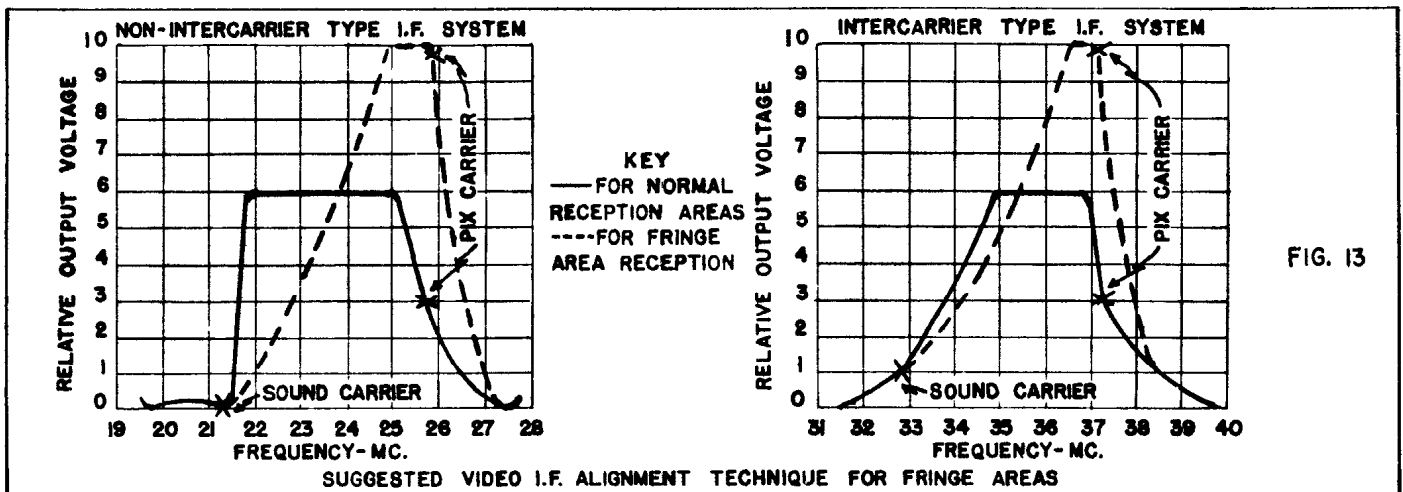

FIG. 13
- (1) Align the receiver with the contrast control set to $3/4$ maximum, or maximum, depending upon expected signal level. This precaution is necessary because most receivers will show a different response curve at high gain, due to the so-called Miller Effect.
- (2) Insert the picture carrier marker or "Pip" on the curve as usual
- (3) Narrow the bandwidth of the receiver to approximately half the band-pass recommended for local reception, and place the picture carrier pip near the top of the curve. See Fig. 13. This procedure allows the sound and picture to "track" under conditions of low signal level, and produces satisfactory picture and sound under conditions where the usual type of alignment would result in "snowy" pictures and/or loss of sound. It must be emphasized that "fringe alignment" causes degradation of picture quality under high signal level conditions.